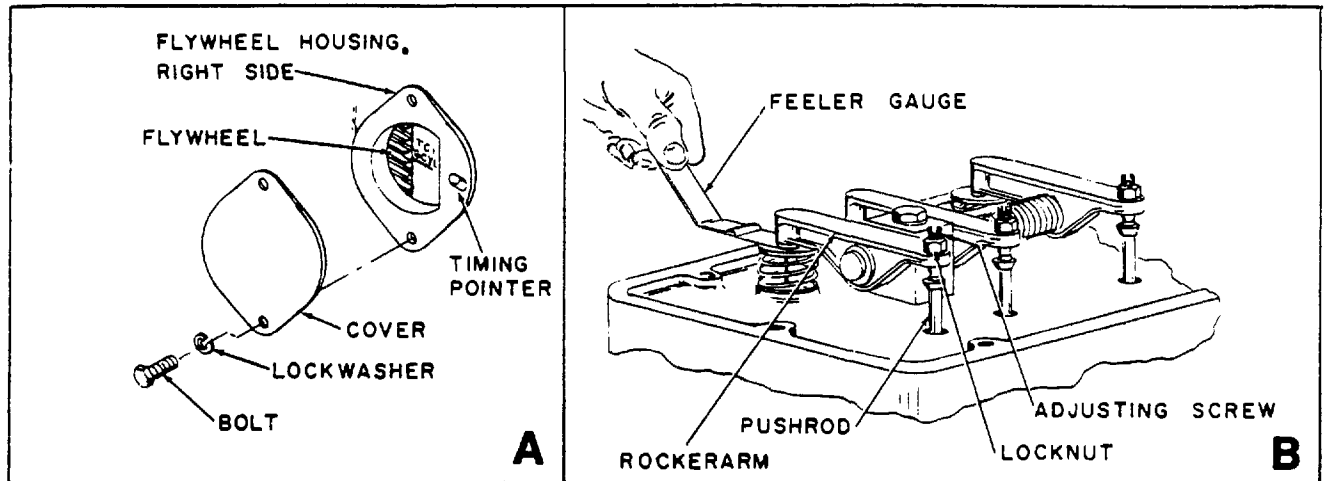

Figure 4-69. Valve Lash Adjustment
(1) Loosen clamp to separate exhaust breather tube from the exhaust breather housing. Leave breather housing attached to valve cover.
(2) Remove bolts which secure valve cover to cylinder head assembly.
(3) Remove valve cover and gasket. Discard gasket.
b. Inspect Rocker Arms. Inspect rocker arms (see figure 4-69) for loose mounting, indications of cracking, deformity, or other damage or defects.
c. Valve Lash Adjustment. Engine valve lash should be adjusted when valves become noisy. Valve lash should be checked at 500 hours and then every 2500 hours of engine operation thereafter. Adjust valve lash as follows (see figure 4-69).
(1) Remove flywheel housing cover as illustrated in A, figure 4-69.
(a) Insert feeler gage as shown in B, figure 4-69. Loosen locknut and rotate adjusting screw until proper clearance is obtained.